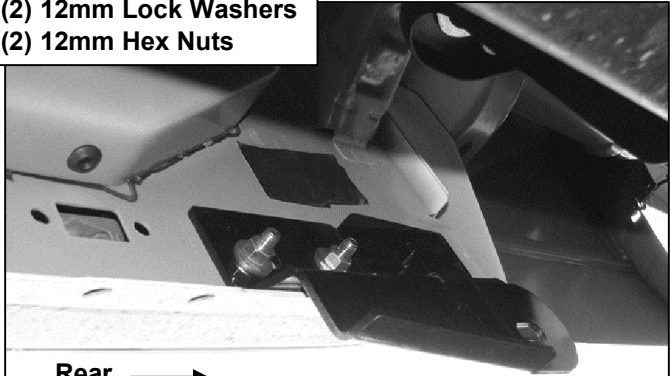

Fig 6
7. Select the passenger side Rear Mounting Bracket. Attach the Bracket to the Double Bolt Plate with (2) 12mm Flat Washers, (2) 12mm Lock Washers and (2) 12mm Hex Nuts, **(Figure 6)**. Snug all hardware but do not tighten at this time.
8. Carefully unpack and select the passenger Sidebar. Position the Sidebar up to the Mounting Brackets and attach using the included (2) 1/2" x 2" Hex Bolts, (2) 1/2" Lock Washers, and (2) 1/2" Flat Washers. Snug but do not tighten at this time.